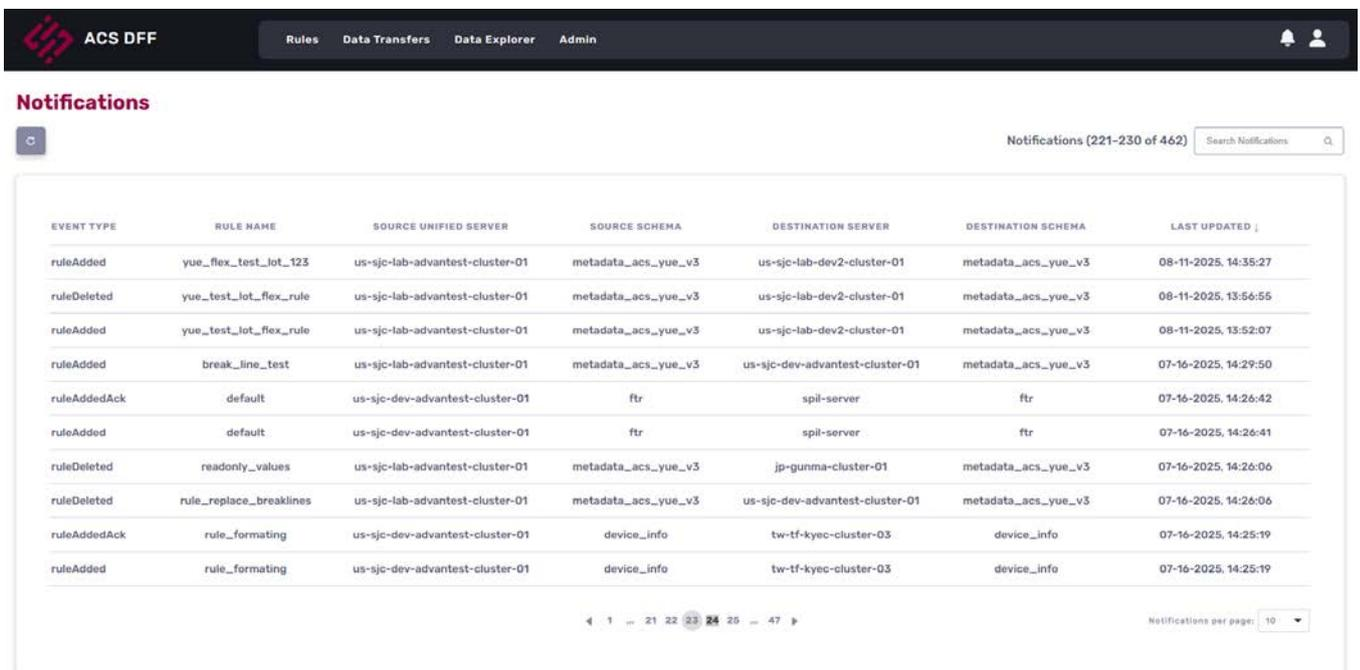

Figure 6-10. Notifications Tab
- **Detailed View:** For each notification, the fields are displayed, as shown in Figure 6-10.